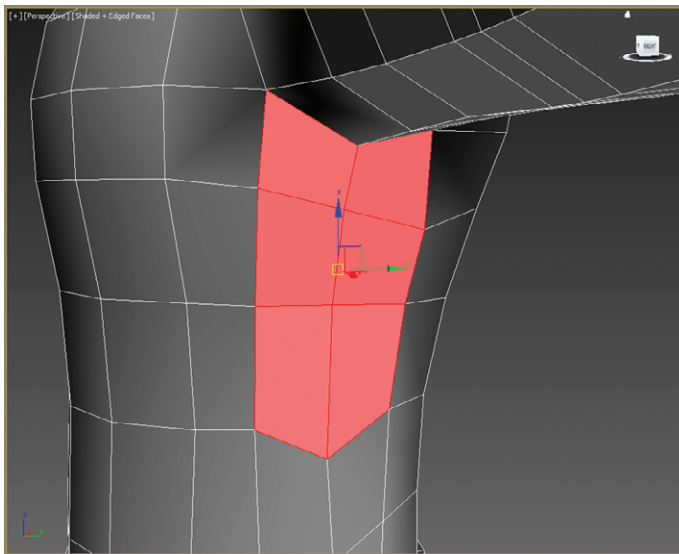

FIGURE 8.10 Select the polygons directly under the armpit.
1. Select two columns and three rows of polygons directly underneath the armpit, as shown in Figure 8.10.